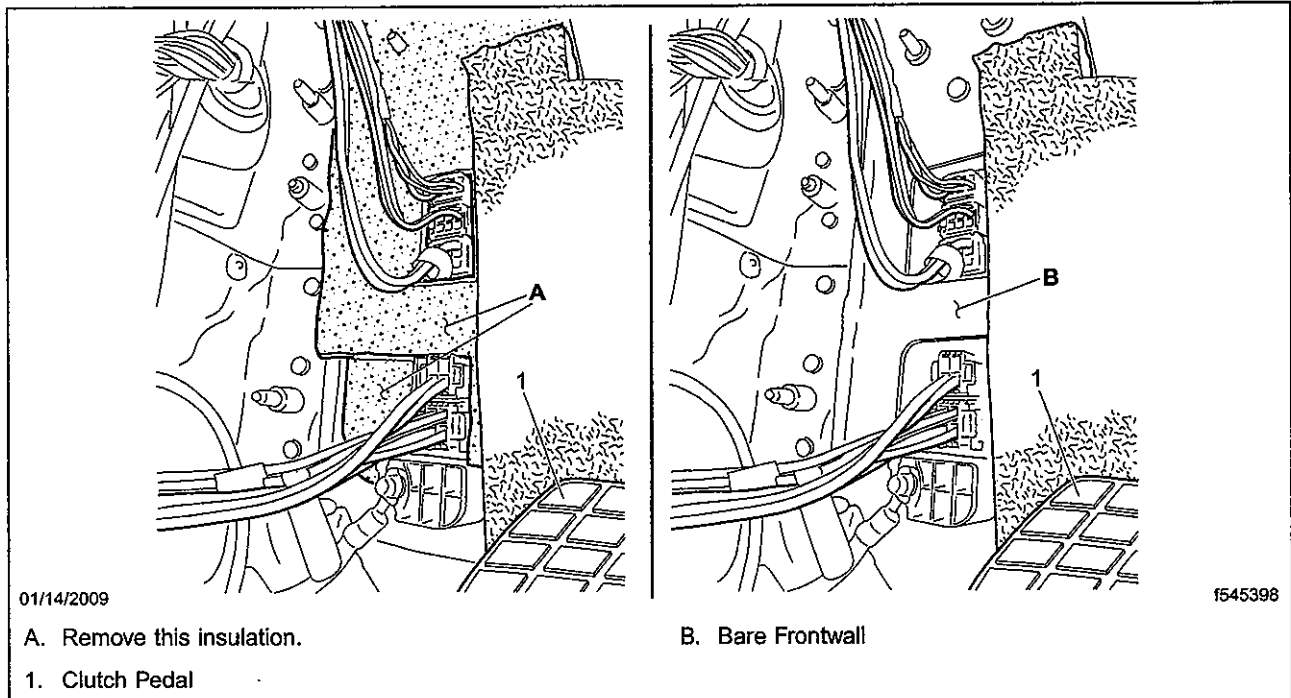

Fig. 10, Removing the Insulation
18. Make a vertical cut 3-1/2 inches (9 cm) from the left edge of the frontwall foam rubber insulation. This cut should line up with the junction of the kick panel and the insulation. The upper cut will be above that area where the carpeting on the insulation stops. Remove the insulation from around the SAM chassis connections. See Fig. 10.